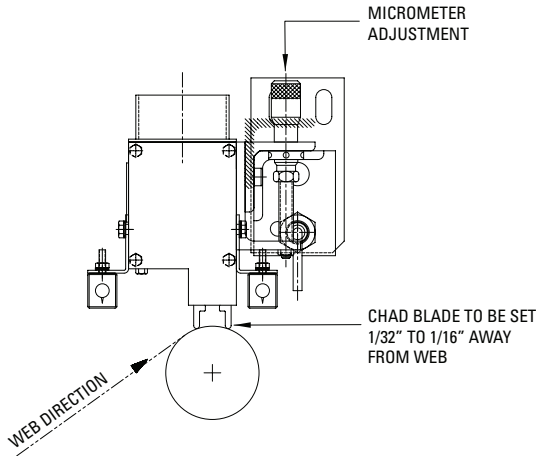

Figure 3. Brush Setting for Mark I Ion-O-Vac with Chad Blades
2). Then tighten the adjustment locknuts to secure in place. For vacuum heads supplied with chad blades, adjust the vacuum heads until there is a "1/32" to 1/16" gap between the material to be cleaned and the tip of the chad blades (Figure 3). Then tighten the adjustment locknuts to secure in place. Make sure that the vacuum heads are fastened securely in place. Inch the machine and check for clearance. For vacuum heads with manual or pneumatic retraction systems, retract the vacuum heads and check for clearance. The vacuum heads should not interfere with the normal operation of the web machine. After all clearances are checked, proceed to **COLLECTION SYSTEM**.